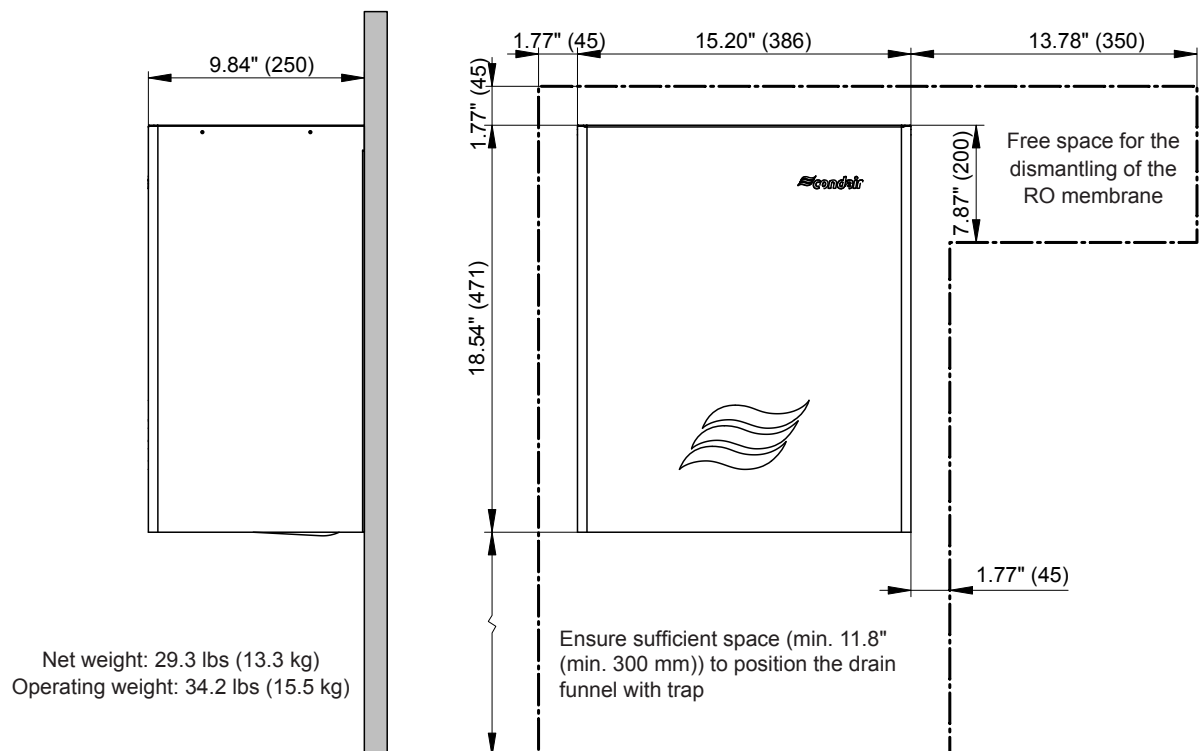

Fig. 11: Dimensions RO-H (dimensions in inch (mm))
- There must be a sufficiently large free wall space in the room for the installation of the RO-H reverse osmosis unit, the flow tank and the booster module(s) (see Fig. 11 to Fig. 17).
Important: The wall on which the components of the reverse osmosis system are mounted must have sufficient load-bearing capacity (see weight information in Fig. 11) and be suitable for the attachment.